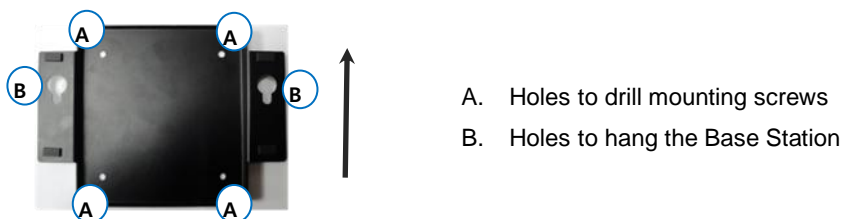

Figure 5-2. Wall-mount bracket on a wall
**Step 3.** Put the wall-mount bracket on the wall as shown in the Figure 5-2 to mark the location of the holes. The bracket surface with four **(A)** holes should be direct attached to the wall and two **(B)** holes should be shown on the upper side of the bracket. Mark four drill holes for mounting screws on the wall with a pencil.